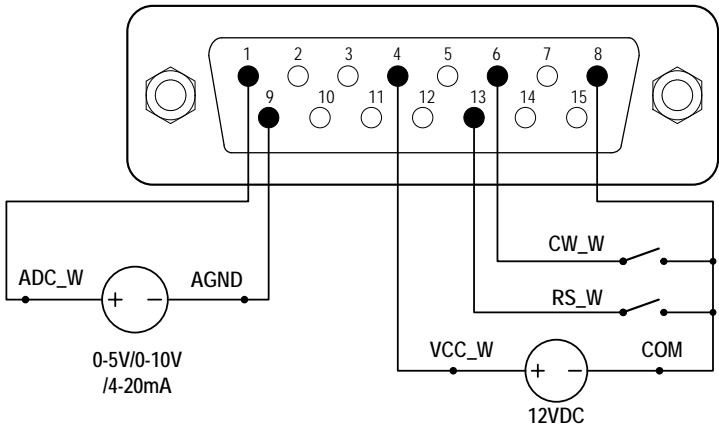
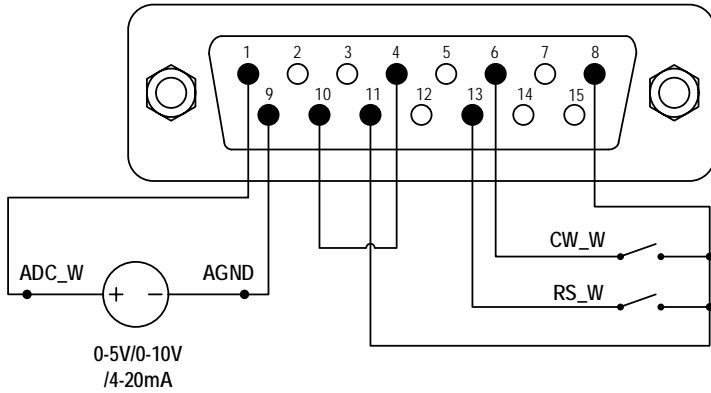

Figure 16. DB15 Wiring with External 12VDC Power Source
Figure 17. DB15 Wiring with Internal 12VDC Power Source
- 1) Switch the power off. Wire the DB15 connector as shown on Figure 16 or Figure 17. Connect it to the DB15 port on the rear of the pump.